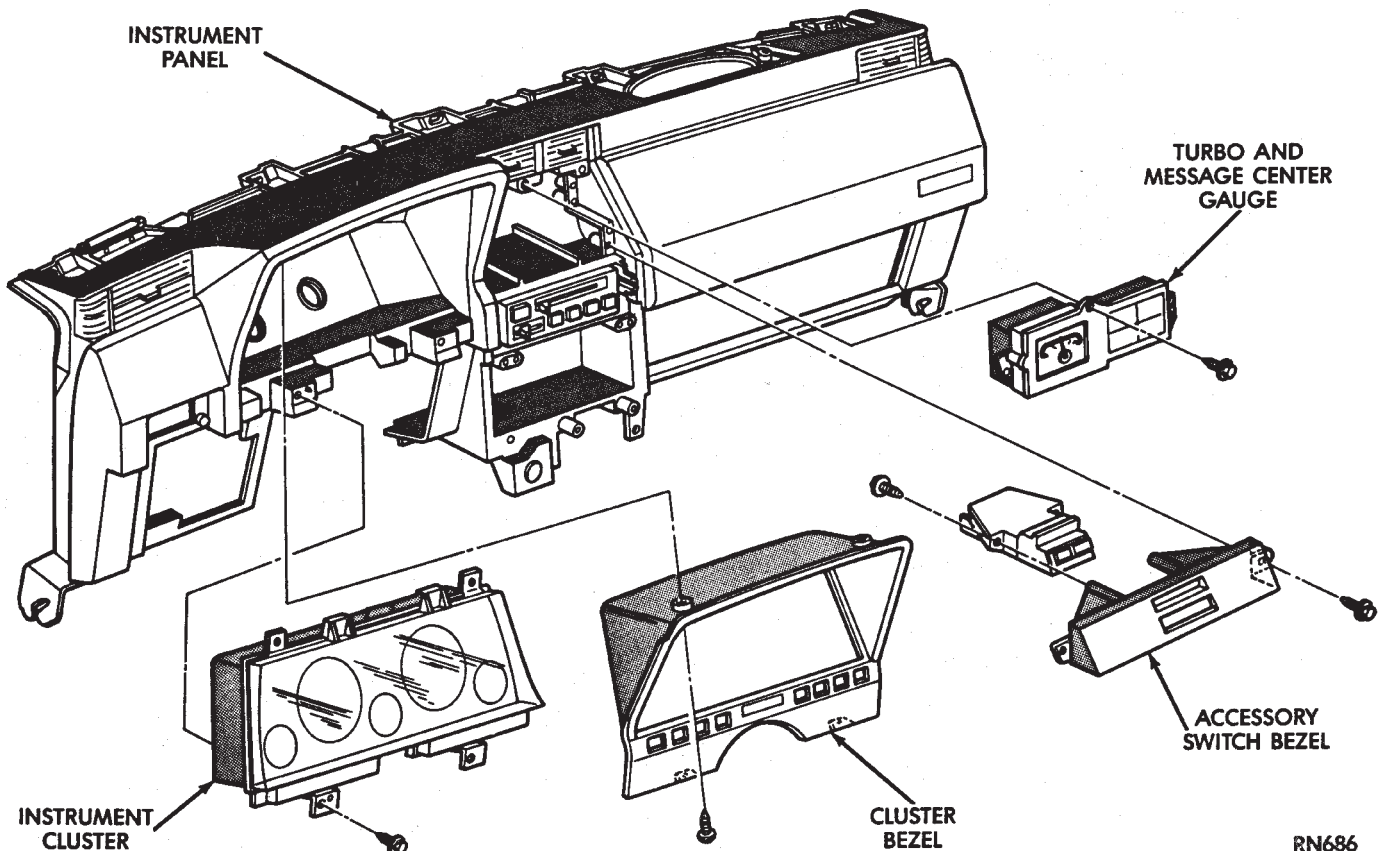

Fig. 8 Upper Instrument Panel Components
- (1) Remove four screws holding bezel to instrument panel (Fig. 8).
- (2) Remove bezel over steering wheel.
- (3) For installation reverse above procedures.
- (1) Disconnect battery to assure no Air Bag System fault codes are stored.
- (2) Remove cluster bezel (Fig. 8).
- (3) Remove the upper steering column cover.
- (4) Remove the four screws attaching cluster housing to the base panel.
- (5) Pull cluster rearward, reach behind cluster and disconnect the two wiring harnesses.
- (1) Remove instrument cluster bezel (Fig. 8).
- (2) Remove mask and lens.
- (3) Remove two retaining screws and pull temperature gauge straight back.
- (4) For installation reverse above procedures.
- (3) Remove three speedometer retaining screws and pull the speedometer straight back and set aside.
- (4) Remove two voltmeter retaining screws and pull voltmeter straight back.
- (5) For installation, place voltmeter on gauge pins and push until gauge is securely seated in cluster and reverse above procedures.